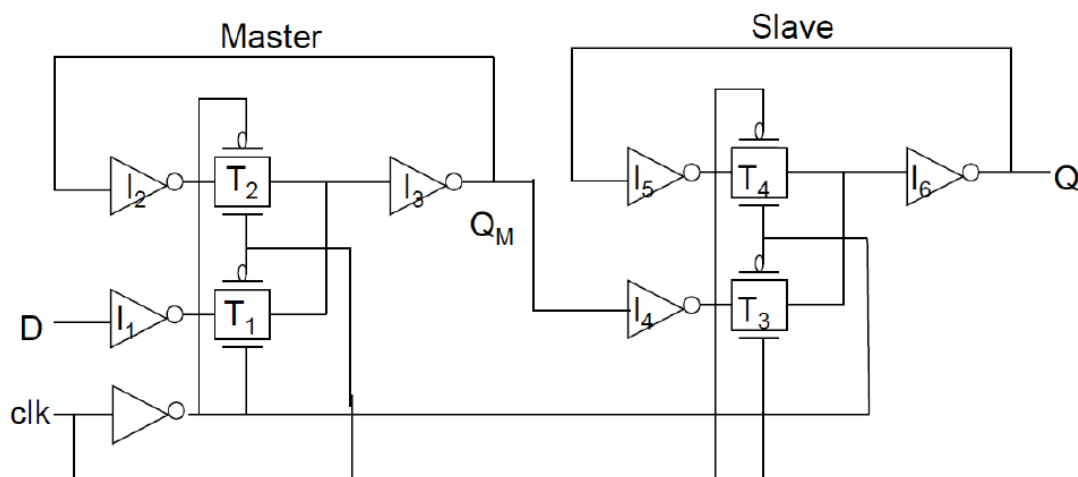

Fig. 3 Mater Slave Based ET DFF
- Using the DFF in Fig.3 and with the inverter size $(W/L)_n = 0.6\mu\text{m}/0.2\mu\text{m}$ and $(W/L)_p = 1.8\mu\text{m}/0.2\mu\text{m}$, the transmission gate size $(W/L)_n = (W/L)_p = 0.8\mu\text{m}/0.2\mu\text{m}$. (15%)